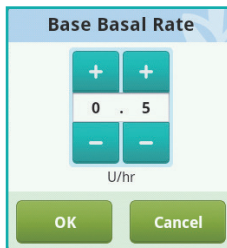

Figure 19
b) Choose the Base Basal Rate setting to open a dialog box (Figure 19) that can be used to input your base basal rate. Use the “+” and “-” buttons to select the appropriate value. Choose OK to save and exit or Cancel to exit without saving.